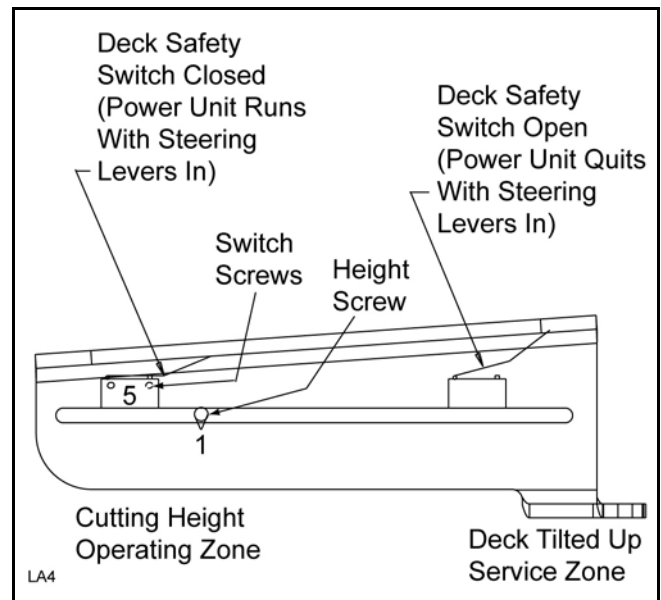

Figure 11. Power Tilt Deck Safety Switch Layout
- If using the power tilt option and you need to check the deck safety switch refer to Figure 11 and troubleshooting deck safety switch. If the deck switch is open the engine will kill when pulling handles in.
1. Pull handlebars in with deck in lowest cutting height position (1), see Figure 11.